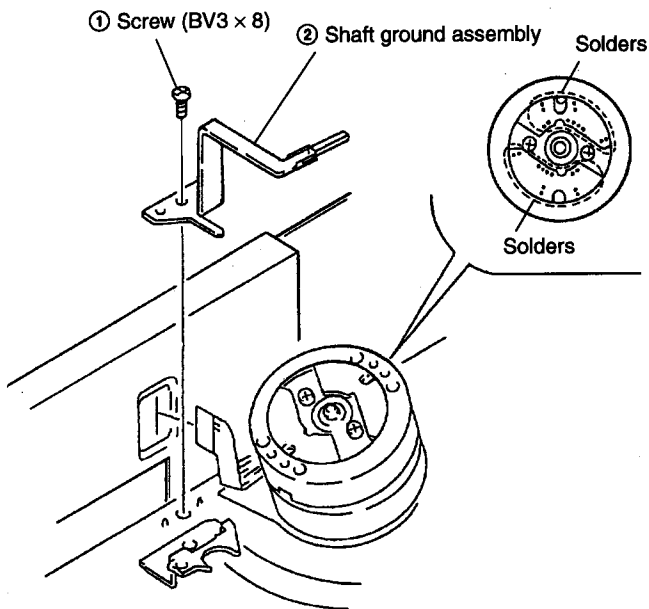

Fig. 1
- 1) Remove the screw ① (BV3 × 8) and take out the ground shaft assembly ②. (See Fig. 1.)